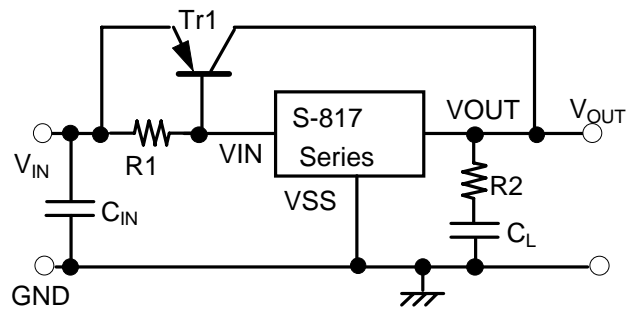

Figure 8 Output Current Boosting Circuit
As shown in Figure 8, the output current can be boosted by externally attaching a PNP transistor. The base current of the PNP transistor is controlled so that output voltage V_{OUT} goes the voltage specified in the S-817 when base-emitter voltage V_{BE} necessary to turn on the PNP transistor is obtained between input voltage V_{IN} and S-817 power source pin V_{IN} .
- Resistor R2: Set $R2$ to $2\ \Omega \times V_{OUT}$ (S) or more.
- To improve transient response characteristics of the output current boosting circuit shown in Figure 8, check that no problem occurs due to output fluctuation at powering on or due to power or load fluctuation under normal operating conditions.